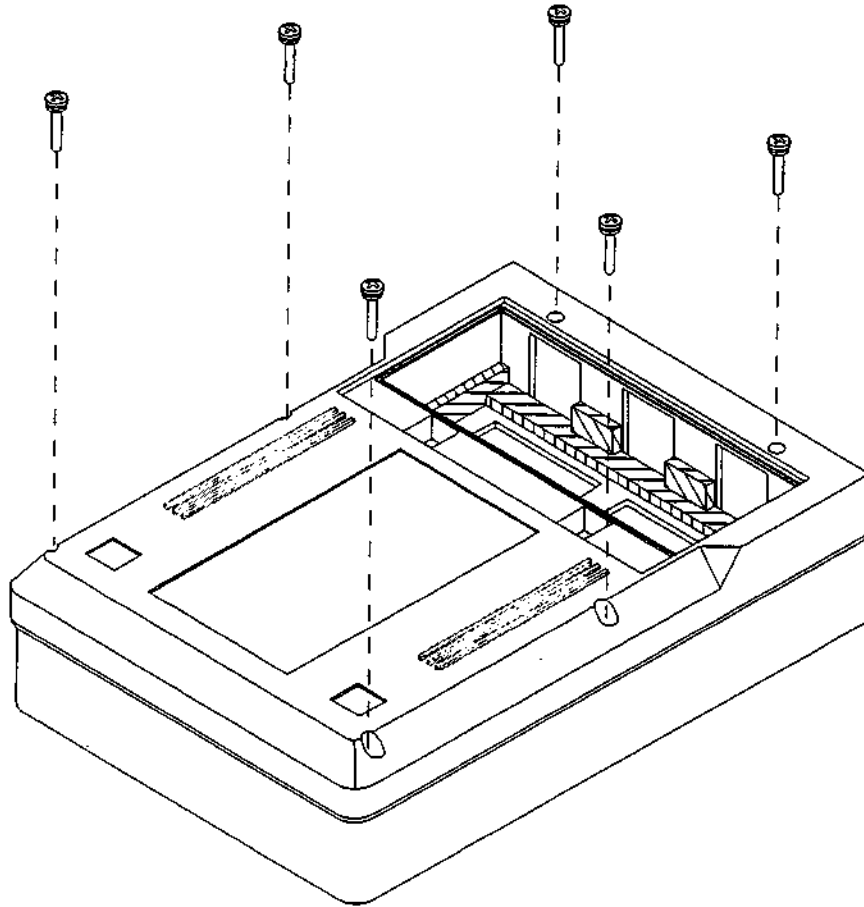

Figure 8-2.
1. Remove the six screws from the perimeter of the bottom cover as shown in figure 8-2.